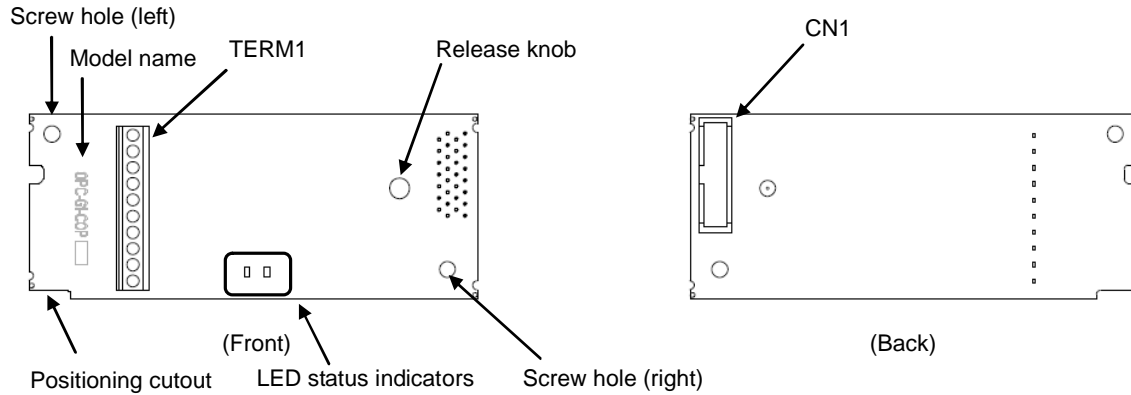
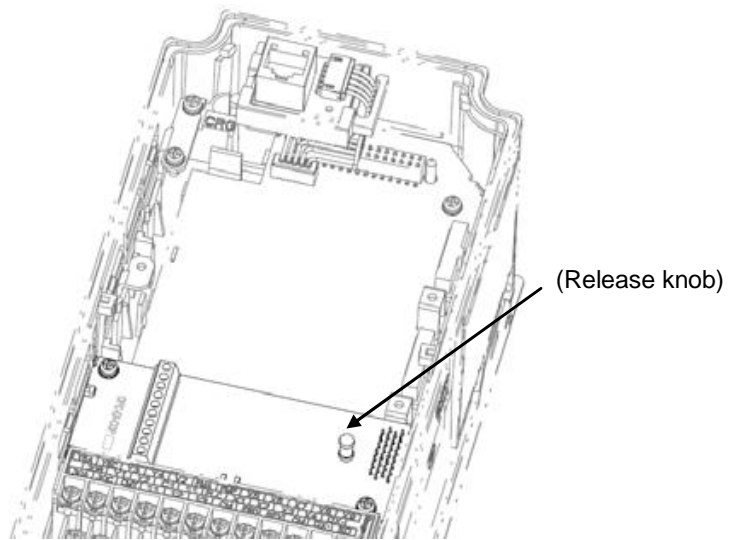

Figure 2.1 Names of Parts on CANopen Communications Card
Figure 3.3 Mounting Completed (on A-port)
- (1) A communications card, two screws (M3 × 8), and the CANopen Communications Card Instruction Manual (this manual) are contained in the package.
- (2) The communications card is not damaged during transportation--no defective parts, dents or warps.
- (3) The model name "OPC-G1-COP" is printed on the communications card. (See Figure 2.1.)
Figure 2.1 shows the names of the parts on the CANopen communications card.
- (2) Insert connector CN1 on the back of the communications card (Figure 2.1) into the A-port (CN4) on the inverter's control PCB. Then secure the communications card with the two screws that come with the card. (Figure 3.3)
**Note** Check that the positioning cutout (shown in Figure 2.1) is fitted on the tab (① in Figure 3.2) and connector CN1 is fully inserted (② in Figure 3.2). Figure 3.3 shows the communications card correctly mounted.
- (3) Perform wiring to the communications card.